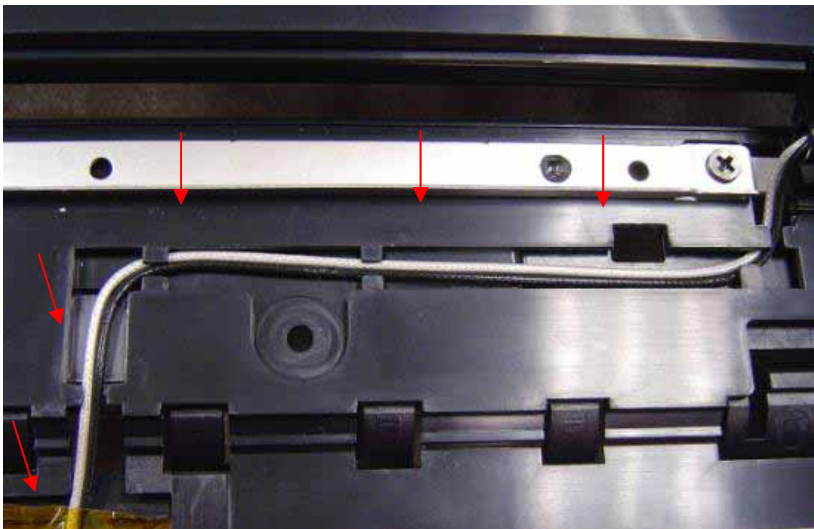

Figure 2-17 Disconnect 4 cables and remove two hinge covers with screwdriver
2. Open the LCD cover to level plane. And disconnect 4 cables (LCD Cable/ VGA Cable/ Touchpad Cable/ Antenna) from the motherboard. Then remove **4 *(item 13)** on hinges. (Figure 2-17)
① LCD Cable
② Lift up Antenna
③ Touch Pad Cable
④ VGA Cable